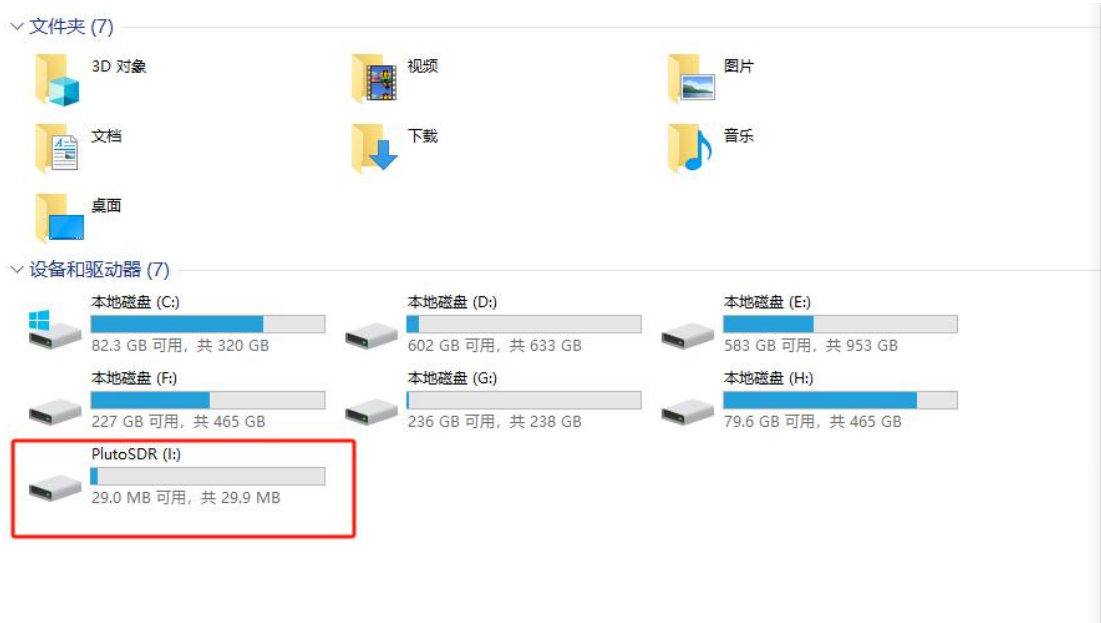
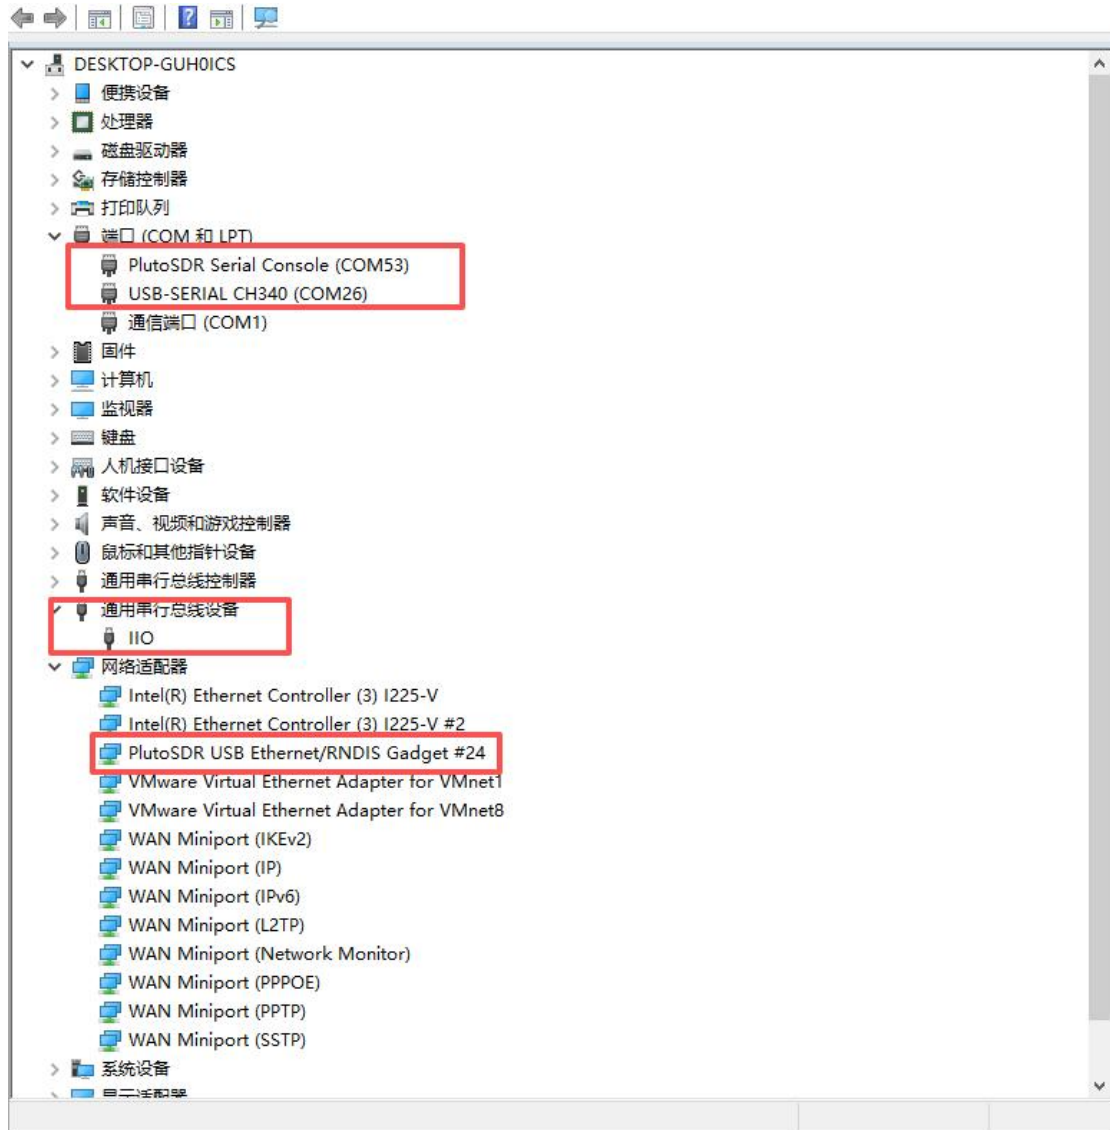

Figure 4: Virtual Disk Drive
Figure 5: Device Manager
2.3. Device Recognition: In the Windows environment, after a short wait, the STAT indicator on the mainboard will blink, and the DONE indicator will stay on, indicating that the device is operating normally. PLUTOSDR NANO will be recognized by the computer as a mass storage device, as shown in Figure 4. In the Device Manager, you will also find the newly added PlutoSDR USB Ethernet/RNDIS Gadget virtual network card, PlutoSDR Serial Console virtual serial port, USB-SERIAL CH340, and General Serial Communication Device IIO, as shown in Figure 5.